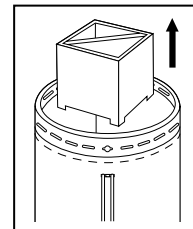

Fig.3
A) Remove all packing materials from heater: (Fig.3)